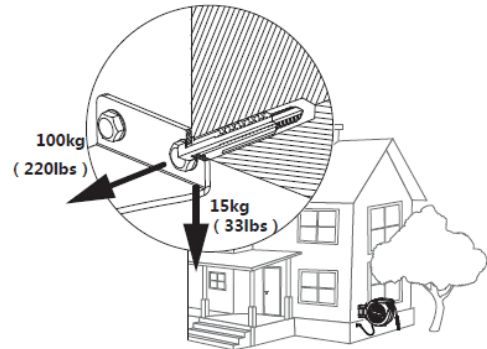

Fig. 2
- Sturdy enough to withstand the loads as illustrated in Fig. 2.